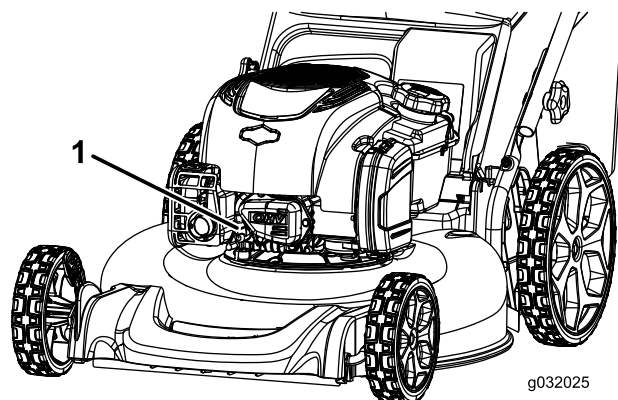

Figure 18
- Disconnect the spark-plug wire from the spark plug (Figure 18).